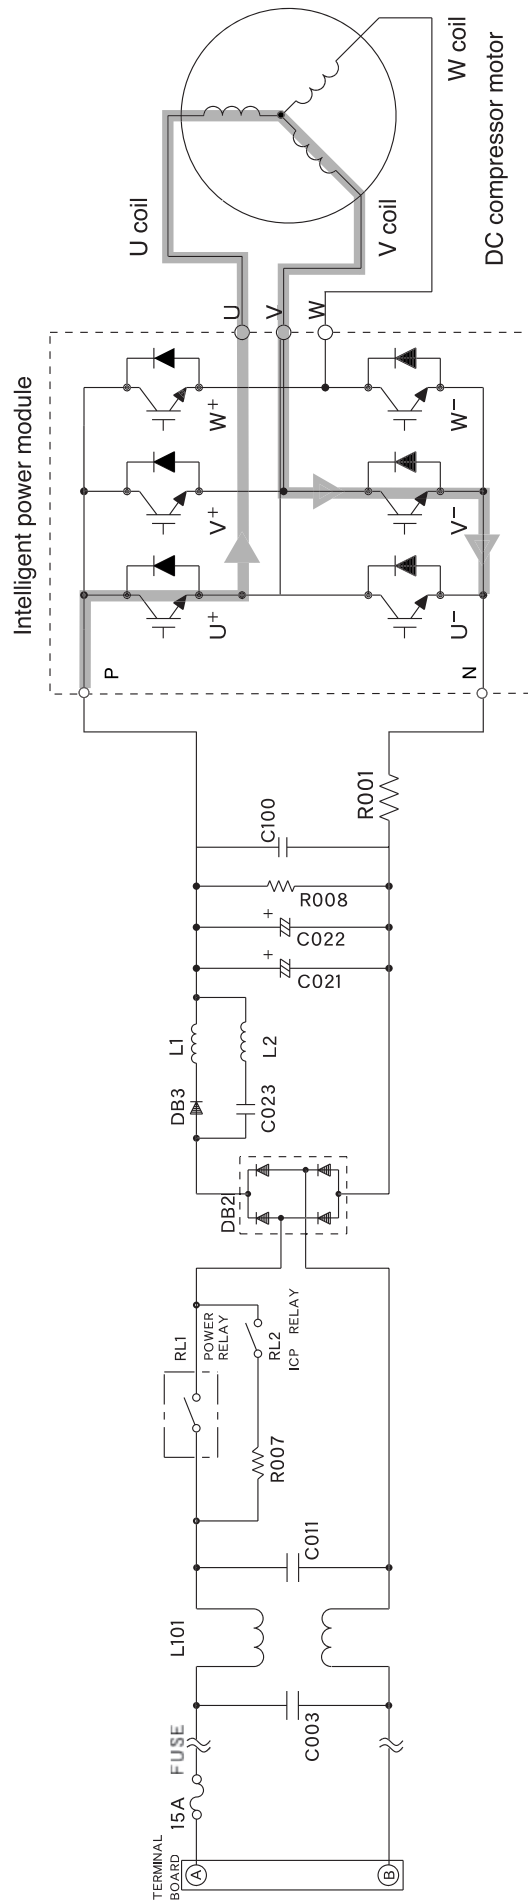
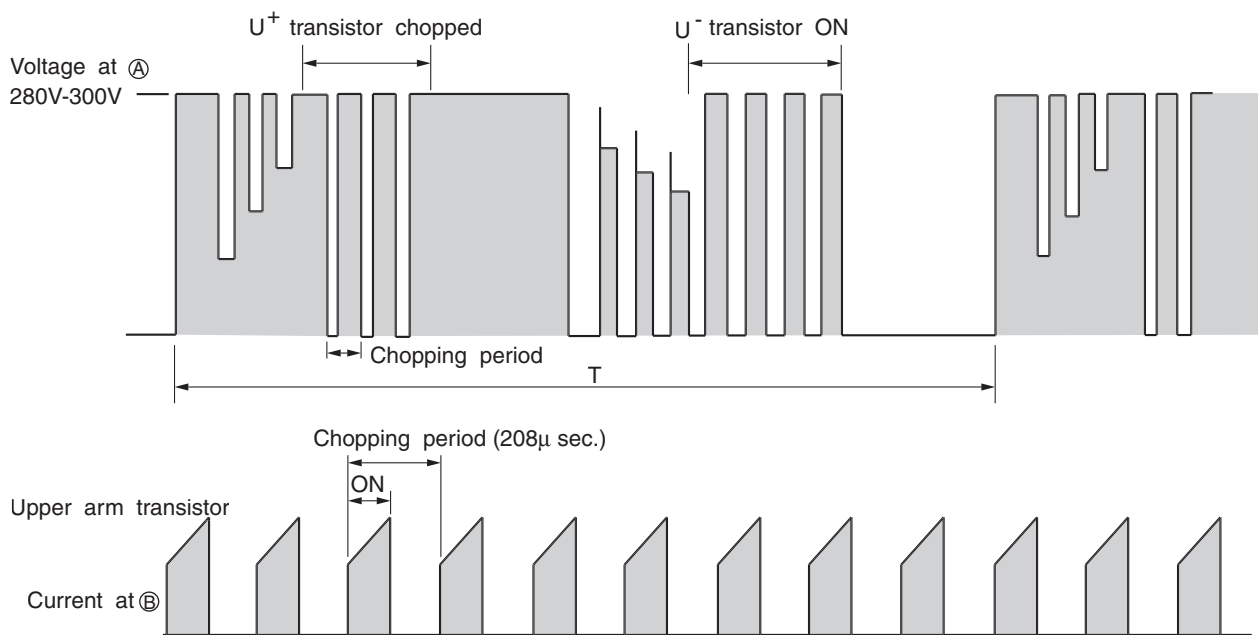

Fig. 3-1 System power module circuit ( $U^+$  is ON,  $V^-$  is ON)
Fig. 3-3 Voltage waveform at each point
Fig. 3-1 shows peripheral circuits of intelligent power module (IPM).
At point ⑤: U+ is ON, V- is ON (circuit in Fig. 3-1)
Fig. 3-3 shows voltage waveform at each point shown in Figs. 3-1 and 3-4. First half of upper arm is chopper, second half is ON, and first half of lower arm is chopper, second half is ON.
- (1) When U+ transistor is ON: U+ transistor → U coil → V coil → V- transistor → DC current detection resistor → Point ⑥ (Fig. 3-3)
Since current flows at point ③ only when U+ transistor and V- transistor are ON, the current waveform at point ③ becomes intermittent waveform as shown in Fig. 3-3. Since current at point ③ is approximately proportional to the input current of the air conditioner, input current is controlled by using DC current (Id) detection resistor.